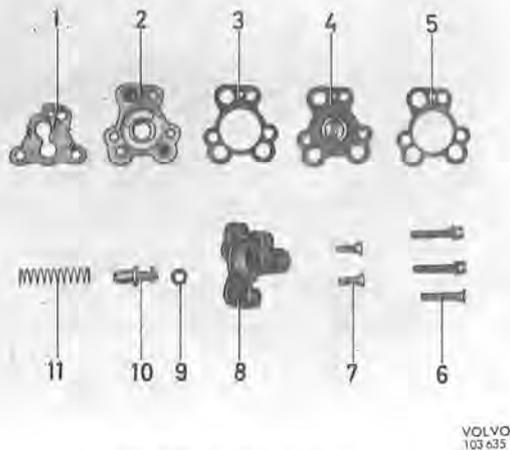

Fig. 2-80. By-pass valve
**N.B. When adjusting,** do not press the adjusting screw inwards since the rubber ring (9, Fig. 2-80) sealing between the screw and cover can drop out of position. Check for air leakage by e.g. placing a finger over the rubber ring hole.
The by-pass valve is replaced complete. The valve is removed from the carburettor by screwing out the three screws (6, Fig. 2-80). Clean the gasket surface and fit the new valve with gasket (1). Carry out a function test. Note that the by-pass valve is marked y on the cover.